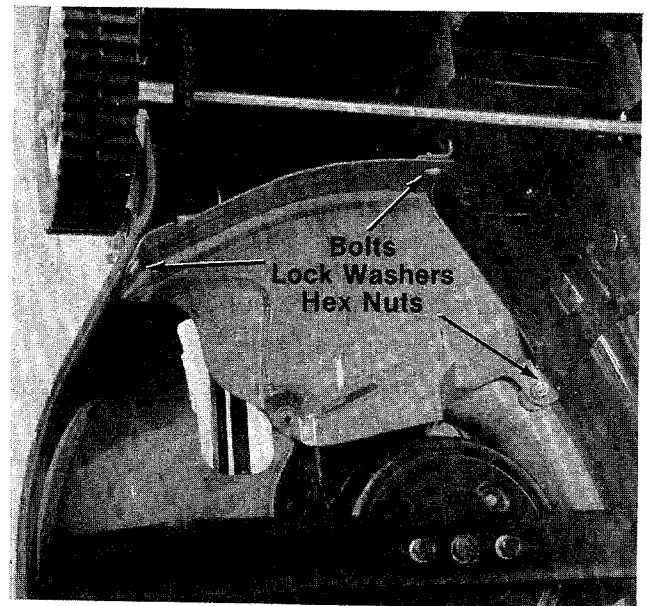

FIGURE 23.
8. Remove the rear baffle by removing three bolts, lock washers and hex nuts. See figure 23.